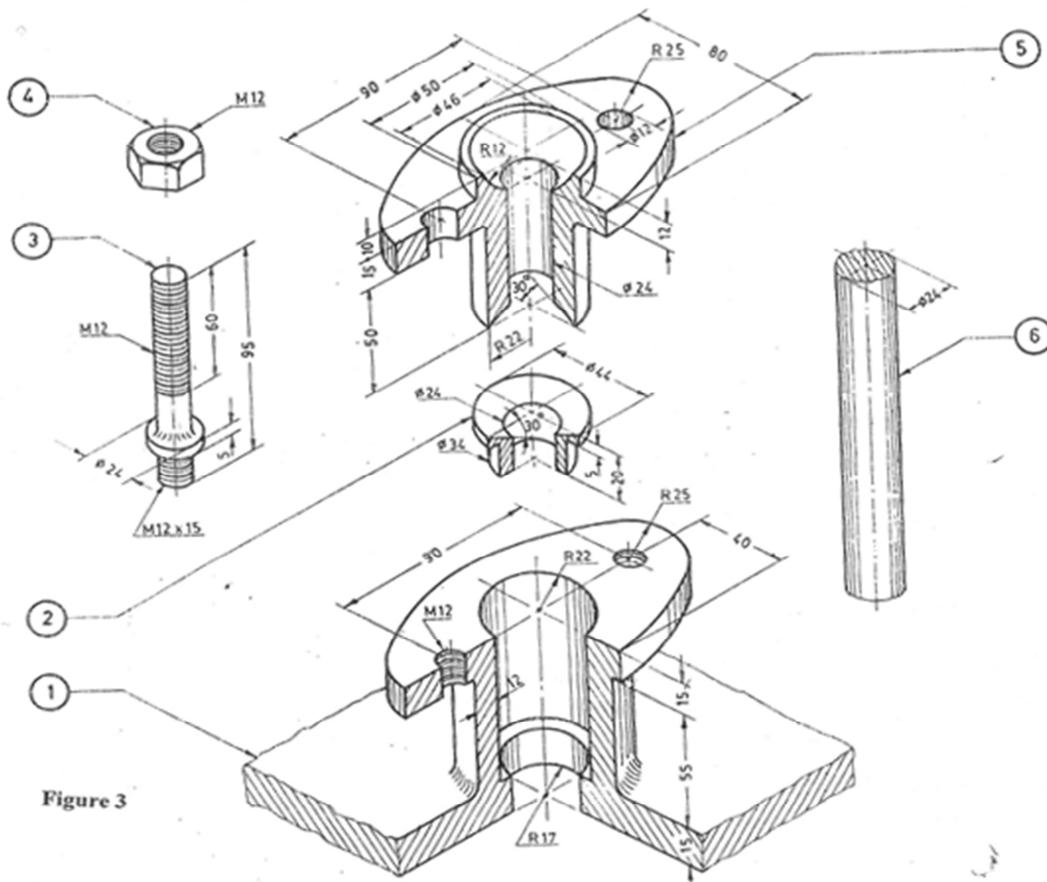

Figure 3
- V. Detailed view of a stuffing box is shown in Fig.3. Assemble the parts and draw left half sectional elevation and prepare bill of materials. (40)